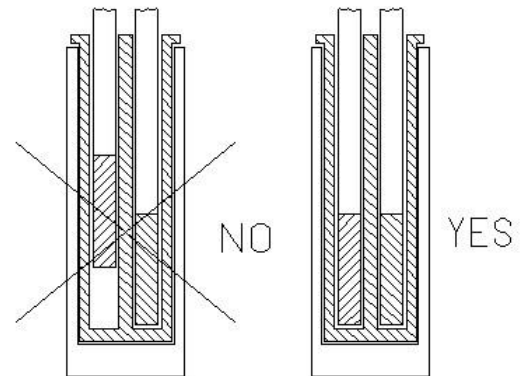

Fig.3
- Calibration with a reference: take care to position the two probes, the standard one and the calibration one, at the same dept and as close together as possible (fig. 3).
Make reference to the temperature value of the display (7: fig 3). It is opportune to refer the value to the test report to compensate the error of the display.